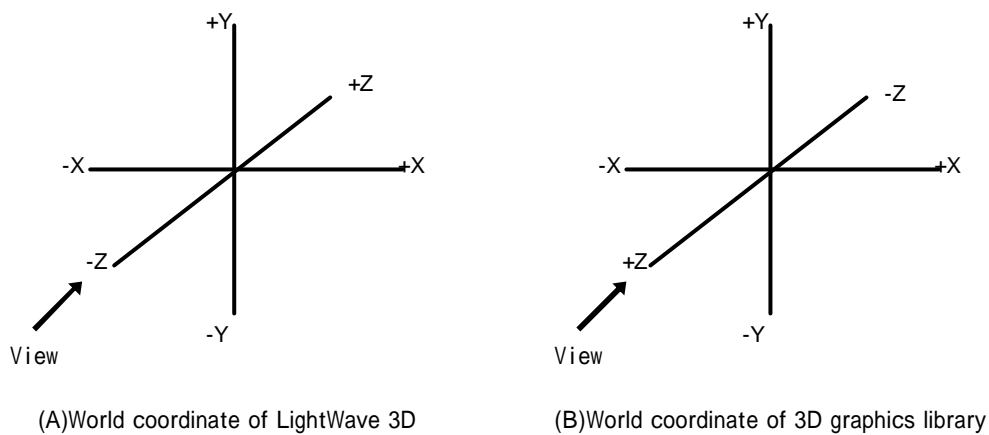

Figure11.1 World coordinate system
- As shown in Figure11.1, there is difference between the configuration method of the world coordinate in LightWave3D and the world coordinate in 3D graphics library. Therefore, the value is transferred for 3D graphics library and output.